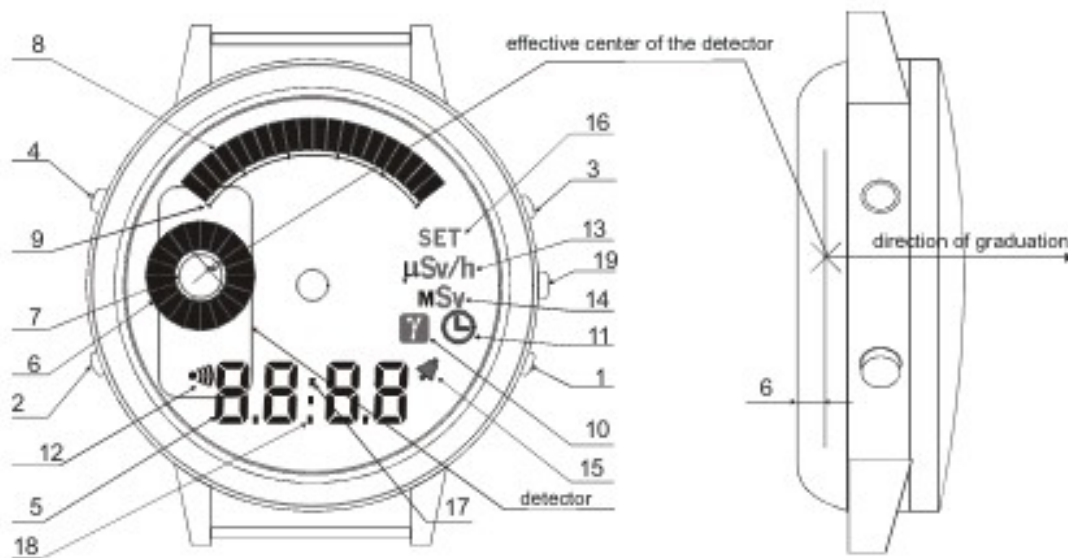

Fig. 1.2
When the registered DER value is equal to or higher than the preset DER value, the linear analogue scale is completely filled in, an audible signal sounds, and the LCD indicates the DER value. To stop this signal, press and release the button 1 ("**set**") or button 2 ("**mode**") (see Fig. 1.2). The indicator will continue the registration and indication of DER.
1.3.14 The indicator is supplied with a display backlight, which is turned ON when the button 3 (“**light**”) is pressed (see Fig. 1.2).
1.4.2 The general view of the indicator is given in Fig 1.2.
A direction of graduation and an effective center of the detector, relative to which the factory calibration is performed are shown in Fig. 1.2.
- Current time indication, as well as to change the parameters, to switch the alarmclock ON/OFF, to turn ON/OFF the dose rate audible indication (see.Fig. 1.2);
Press button 3 “**light**” (Fig.1.2) to switch ON the LCD electroluminescent backlight. A short press of the button will turn the backlight ON for approximately 1 second. A long press (pressing and holding the button) will turn the backlight ON for the time the button is held.
Press and release the “**mode**” button (1) to correct the flashing digit, each press will increase the number by one. The LCD will display the alarm clock turning ON sign (12) (see Fig. 1.2). This means that after setting the alarm clock ON time, the alarm clock will be turned ON.